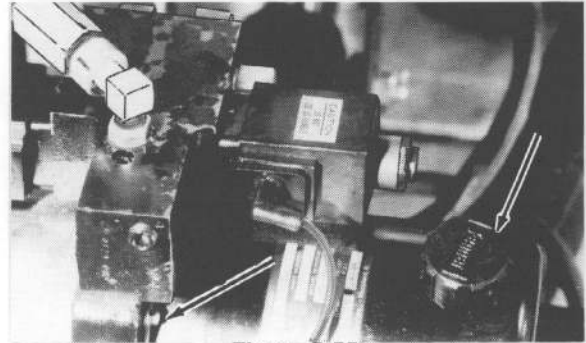

Figure 2-20
1. Remove the two (2) mounting bolts securing the Power unit to the plow.
4. Remove the four cap screws securing the reservoir to the pump assembly and remove the reservoir. See Figure 2-20.